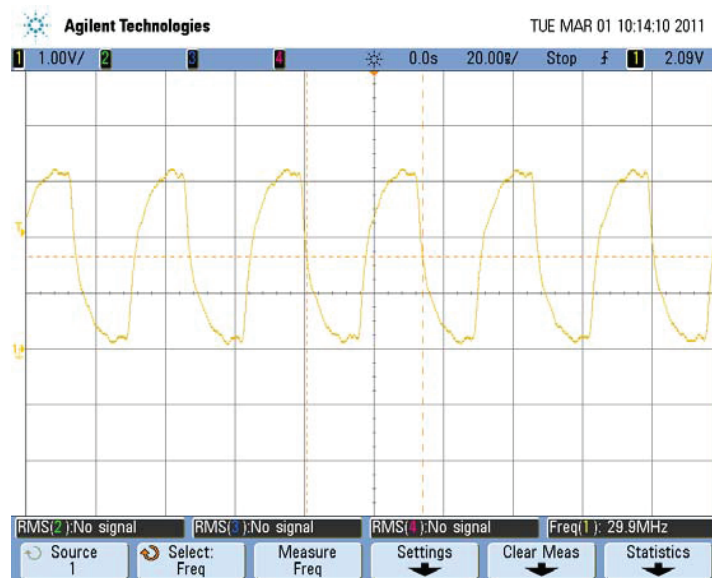

Figure 48
3. Check for data timing signal (next to dot clock signal third from the right in Figure 48). This shows the UI is properly writing and refreshing the LCD with data. If this signal does not exist, then the PCB is defective.